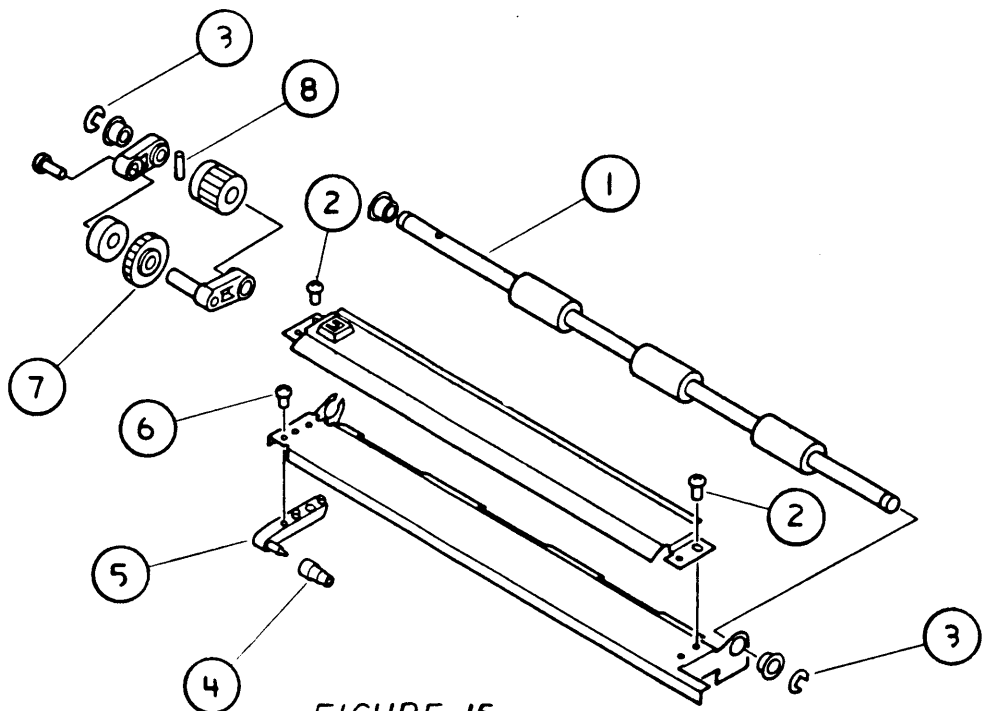

FIGURE 15
□ **LASERWRITER – TRANSFER GUIDE ASSEMBLY (Figure 15)**